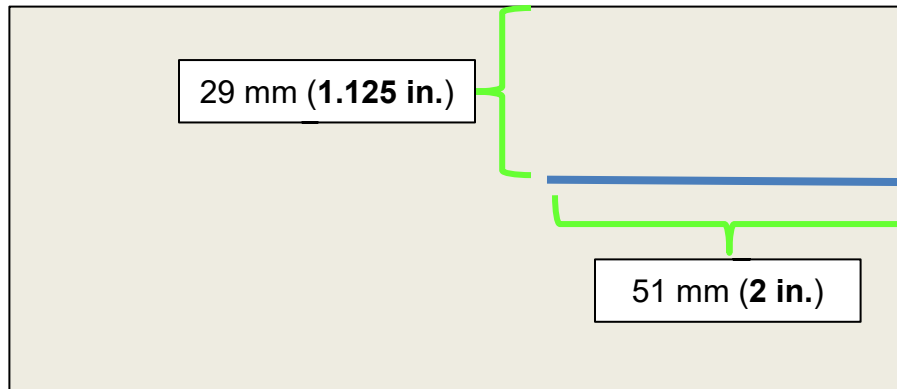

Figure 34
45. On the foil side of one (1) of the four (4) Butyl Patches, measure and mark a line, as shown in Figure 34, and then using scissors cut along the line.